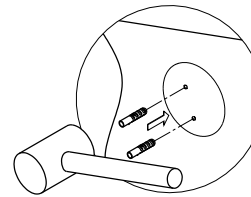

Fig. 4
- Step 4. Insert anchors into the holes with a hammer until flush with the wall (fig 4).
- Step 4. Insert anchors into the holes with a hammer until flush with the wall (figure 4).